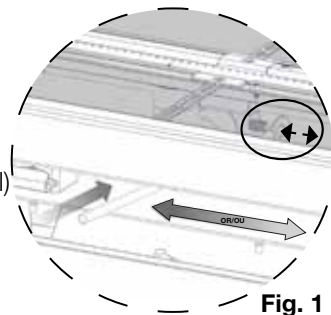

Fig. 1
- ☐ 2. Disengage the air shutter adjustment rod by pushing the smaller end of the rod to the left or right (depending on model) then push towards the back of the appliance until the rod clears the rubber grommet **(Fig. 1)**. **The rubber grommet must stay in place.**